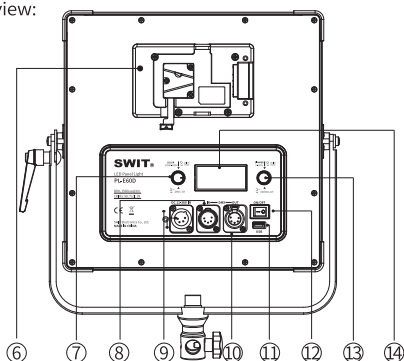

Fig. 6 PL-E60D
The light provides two ways of power supply, by V-mount or Gold mount battery or by 4-pin XLR AC-DC power. Turn on the light (Fig. 6 ⑫) and set the color temperature (Fig.6 ⑬) and brightness (Fig. 6 ⑦) to user's requirements.
The light provides two ways of adjusting the color temperature and brightness: normal adjusting mode and quick adjusting mode. User can switch the adjusting mode by press the dimmer knob and color temperature adjusting knob (Fig.6⑬/⑦). User can quickly set the dimmer and color temperature to their needs by combining two adjusting modes.
Press and hold dimmer knob (Fig.6⑬) for 2s to enter communication address setting interface, the address setting range is 001 to 512.
LCD digital tube (Fig.8 ④) flashing means the current address is selected, rotate the brightness adjusting knob (Fig.6⑬) to set the current address, press the brightness adjusting knob (Fig.6⑬) to confirm, when finish the last setting, press the brightness adjusting knob (Fig.6⑬) or wait for about 5s to quit.
Connect the lights network through using DMX cable. Press and hold color temperature adjusting knob (Fig.6 ⑦) for around 2 seconds to complete the communication control setting.